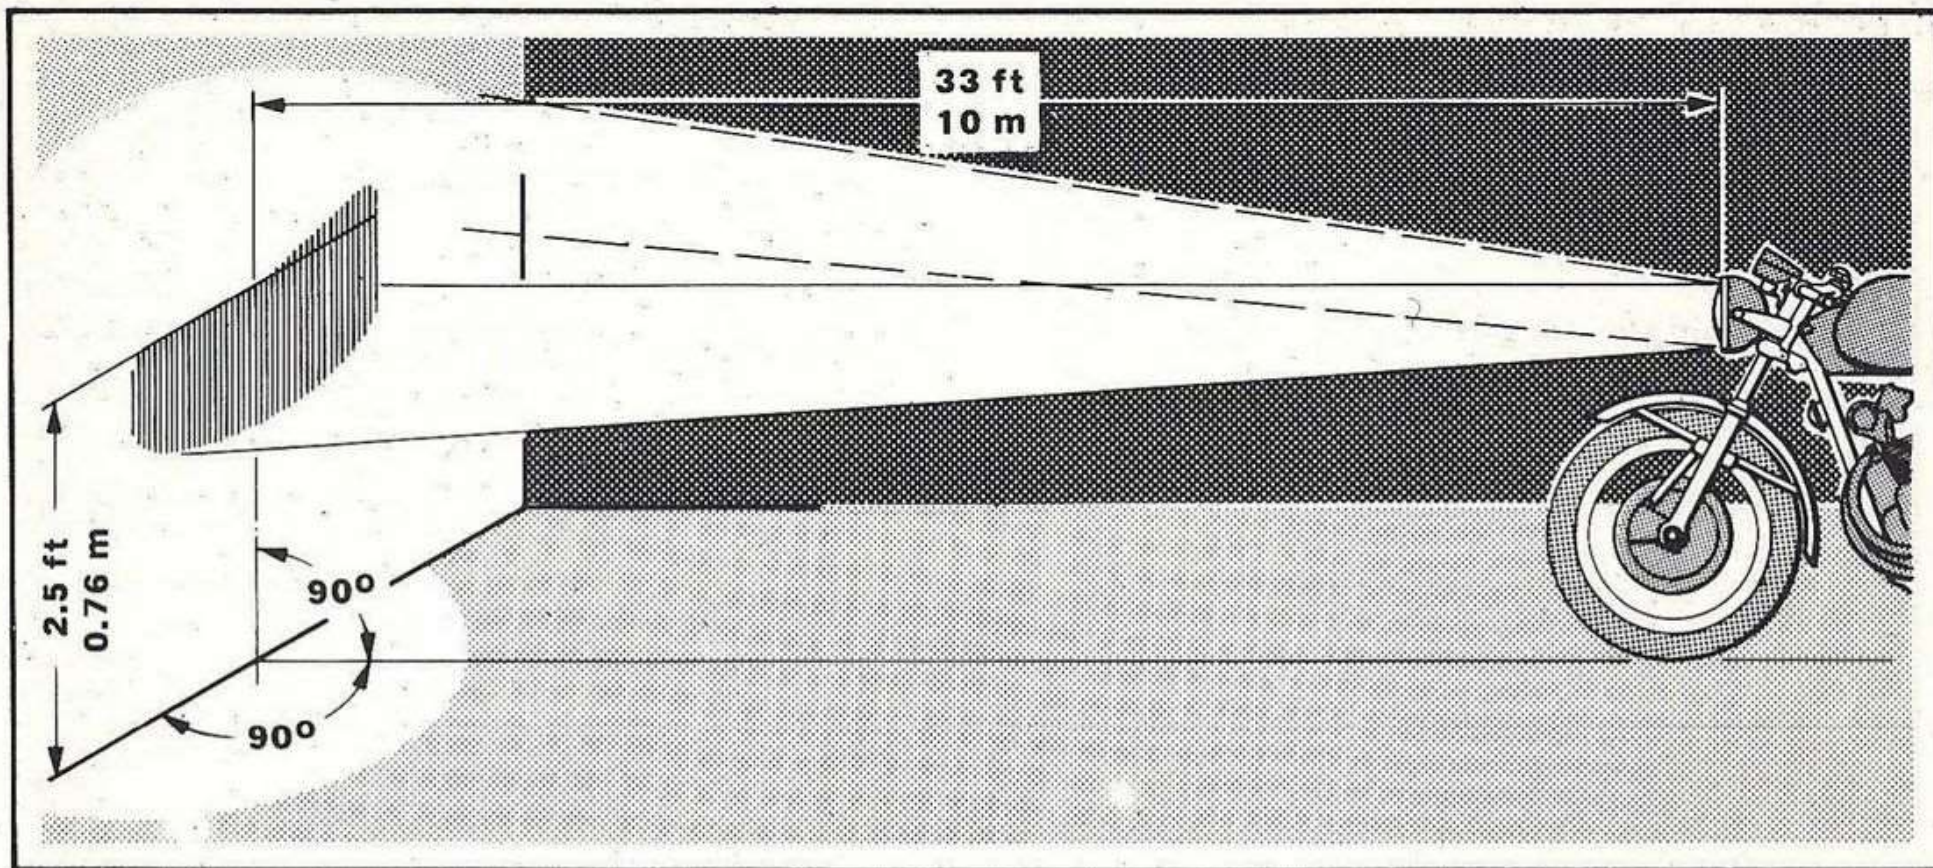

Figure 3-22. Headlight adjustment
(See figure 3-22)
b. Have the wheels well aligned and, observing the conditions shown in figure 3-22, switch on the driving beam and adjust it horizontally and vertically.
c. Switch on passing beam and adjust the beam upper edge to the height shown in figure 3-22.